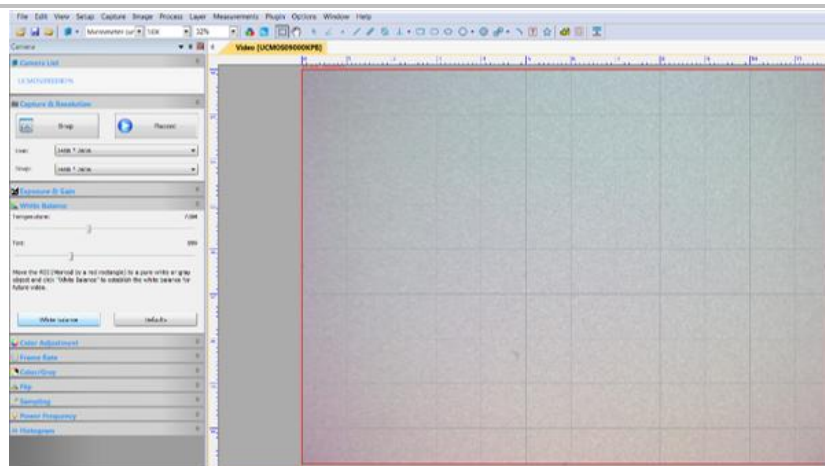

Figure 34. Recalibrating White Balance on un-swiped area
- 13) Move the stage away from the sample collection area along the x-axis to locate a large un-swiped section of the filter, as demonstrated in Figure 34 on the following page. The selected area must be away from the edges of the filter, and must also be completely covered by the microscope slide.